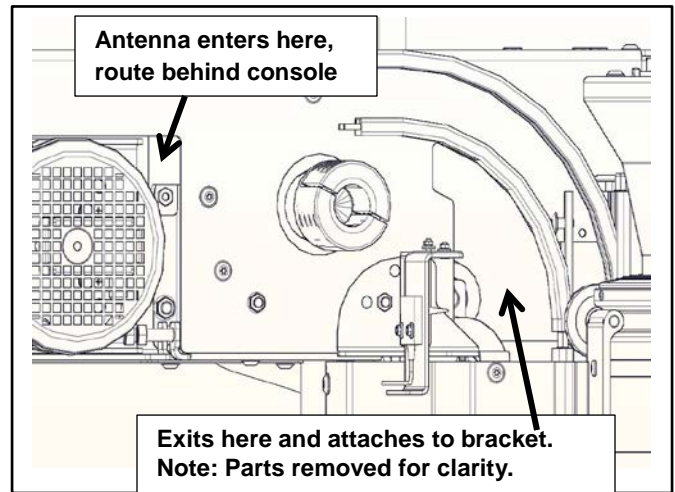

Figure 78
3. At this time find the wireless antenna attached to the motor junction box and cut it free from motor junction box. The antenna must be routed back through the console assembly. Pass the antenna through the opening near the motor and exit out the top of the side column. The tan cable needs to follow closely to the inside of the head assembly. Use cable ties to hold the cable away from moving objects. (See Figure 78.)